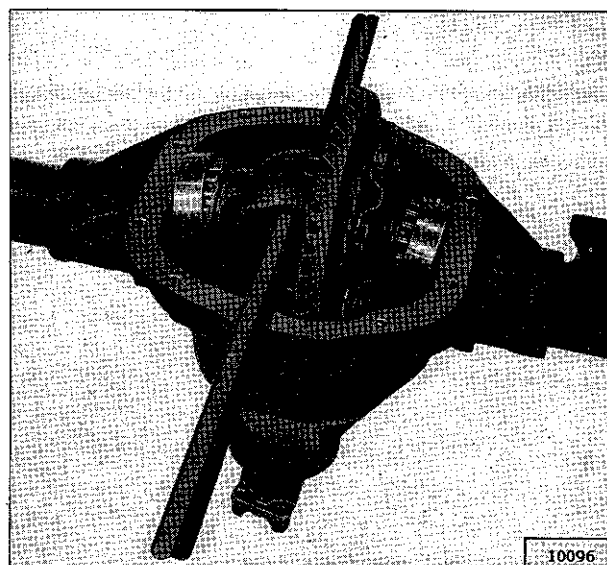

FIG. 259—REMOVING DIFFERENTIAL
d. Should the spreader tool be unavailable, use two pry bars, one on each side of the differential case opening, to pry out the differential assembly as shown in Fig. 259.